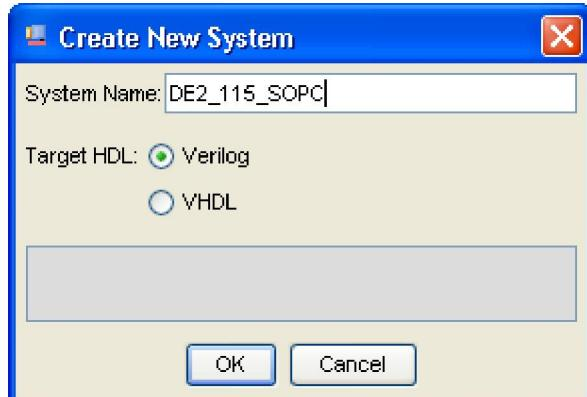
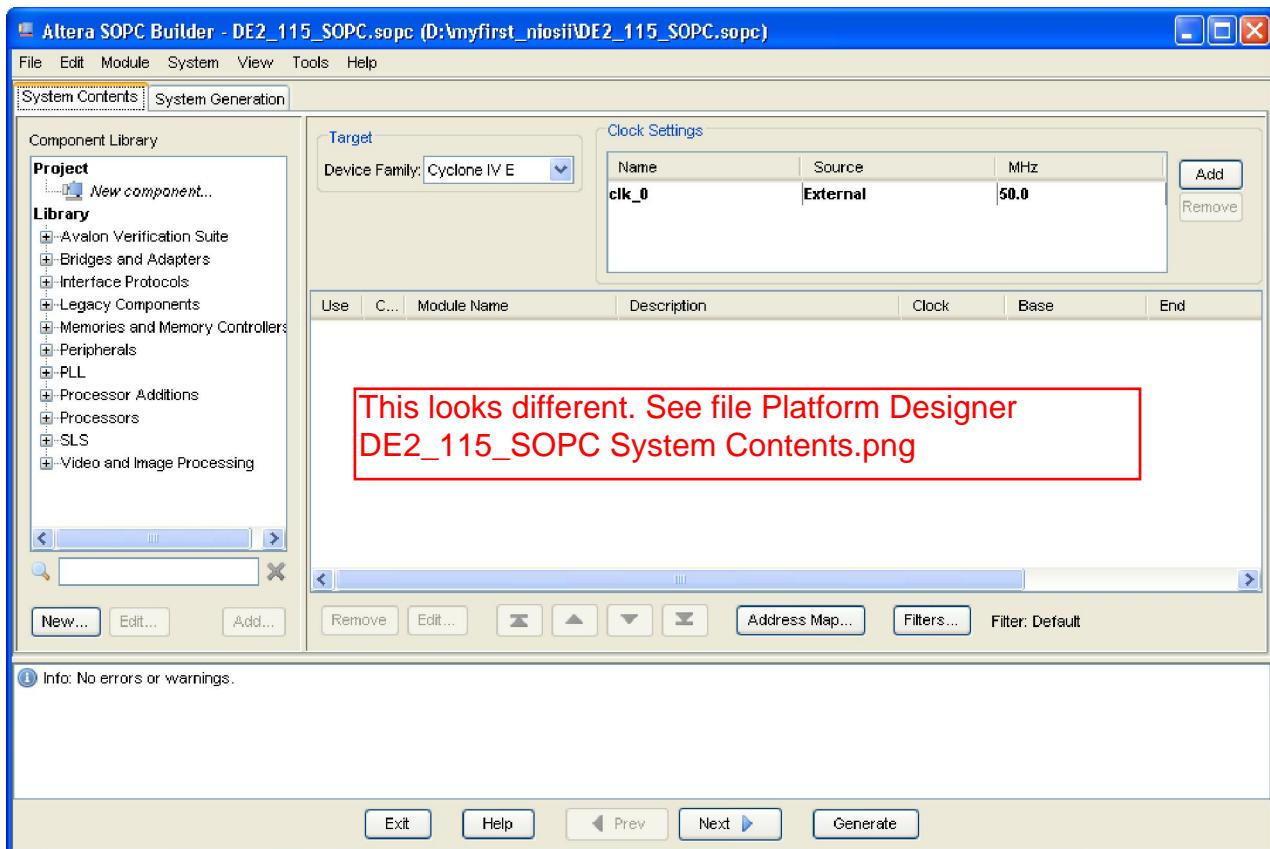

Figure 1-11 Create New System [1]
Figure 1-12 Create New System [2]
6. ~~Rename System Name~~ as shown in Figure 1-11. Click **OK** and you will see a window as shown in Figure 1-12.